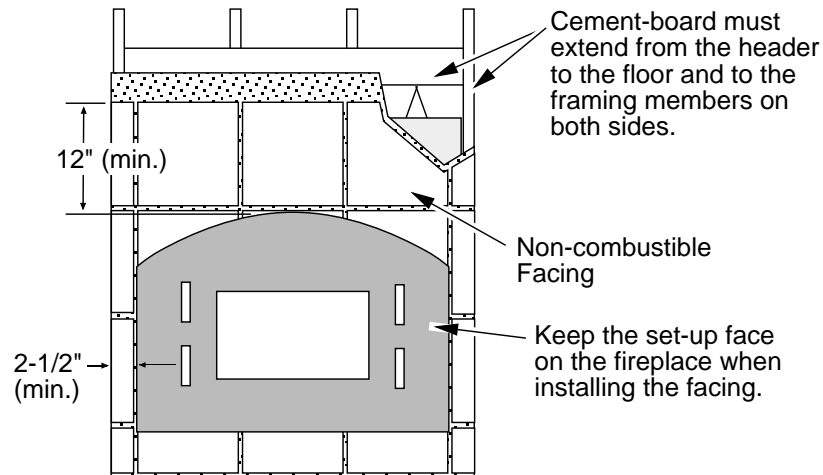

Figure 26
- The fireplace requires 1/2" thick concrete-board or other non-combustible to extend from the header to the base of the fireplace and to the framing members on both sides (do not use sheetrock or drywall). See Figure 26.